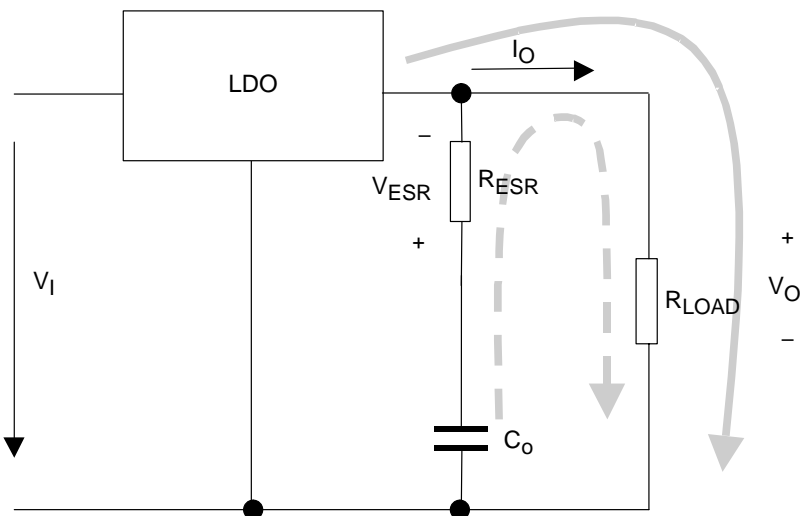
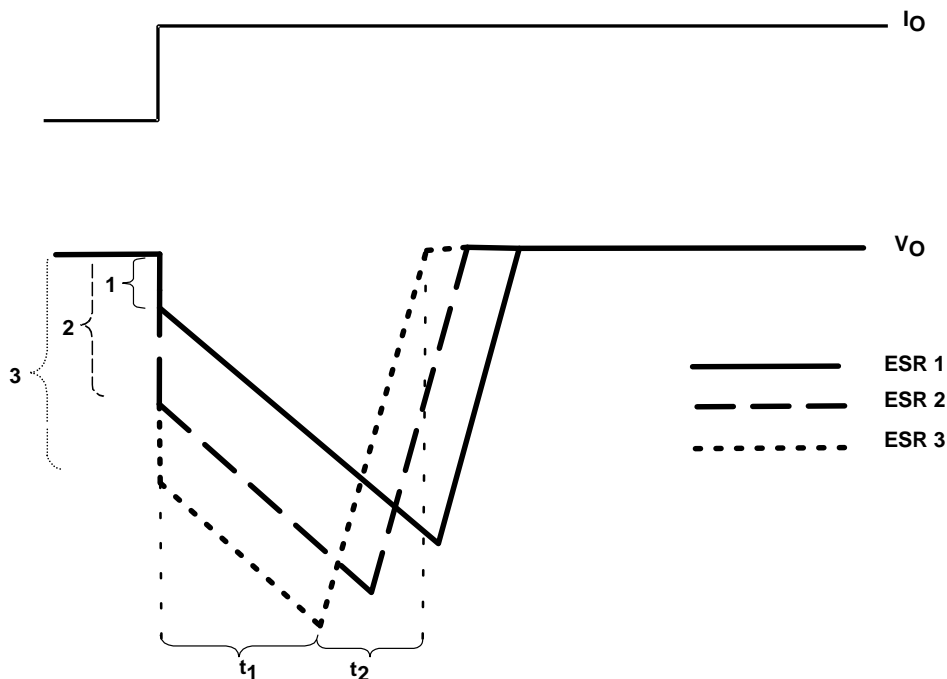

Figure 22. – LDO Output Stage With Parasitic Resistances ESR
Figure 23. – Correlation of Different ESRs and Their Influence to the Regulation of  $V_O$  at a Load Step From Low-to-High Output Current
Figure 22 shows the output capacitor and its parasitic impedances in a typical LDO output stage.
- The LDO is not able to supply the sudden current need due to its response time ( $t_1$  in Figure 23). Therefore, capacitor  $C_O$  provides the current for the new load condition (dashed arrow).  $C_O$  now acts like a battery with an internal resistance, ESR. Depending on the current demand at the output, a voltage drop will occur at  $R_{ESR}$ . This voltage is shown as  $V_{ESR}$  in Figure 22.
- When  $C_O$  is conducting current to the load, initial voltage at the load will be  $V_O = V(C_O) - V_{ESR}$ . Due to the discharge of  $C_O$ , the output voltage  $V_O$  will drop continuously until the response time  $t_1$  of the LDO is reached and the LDO will resume supplying the load. From this point, the output voltage starts rising again until it reaches the regulated voltage. This period is shown as  $t_2$  in Figure 23.